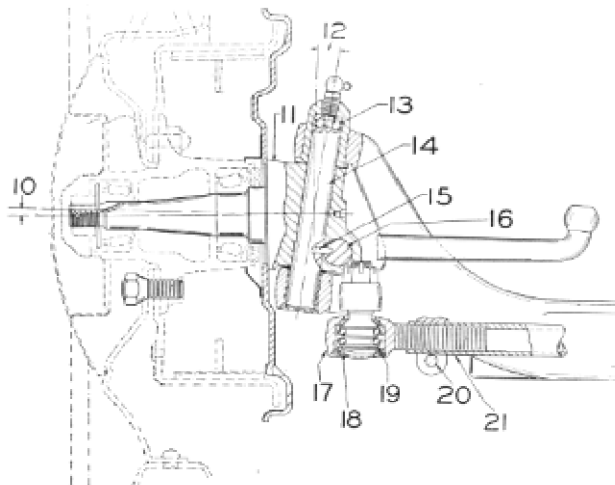

Figure 1
- (7) Check tie rod ends (17) for looseness. Fig. 1. Tie rod end can be raised slightly, compressing spring (18). Do not confuse this with defective joint. If too much play exists, it may indicate that ball race is sticking. If so, joint should be replaced.
- (8) Check drag link for looseness.
- (9) Tighten spring U bolts.
- (10) Check spring shackle bolts for looseness.
- (11) Check steering gear. There should be no perceptible backlash in the steering wheel with the front wheels straight ahead.
#### 4. Caster, Camber and King Pin Inclination Figure 1.